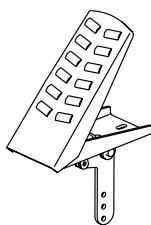

Figure 13. Blade Speed Control Foot Pedal
- The foot pedal, (Figure 13) solely controls blade speed. The position of the foot pedal determines the blade speed. Slow blade speed is obtained by slightly depressing the pedal. Maximum blade speed is obtained by fully depressing the pedal.